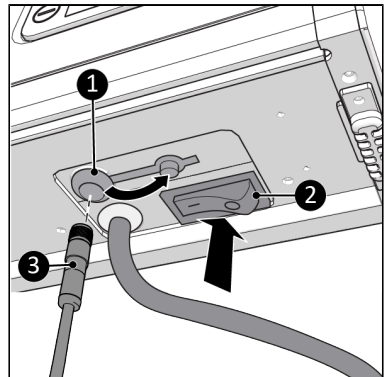

Figure 28.
1. Make sure the ON/OFF switch is in the OFF position (Figure 28, pos. 2).
2. Connect the external temperature sensor connector (Figure 28, pos. 3) to the sensor plug (Figure 28, pos. 1).